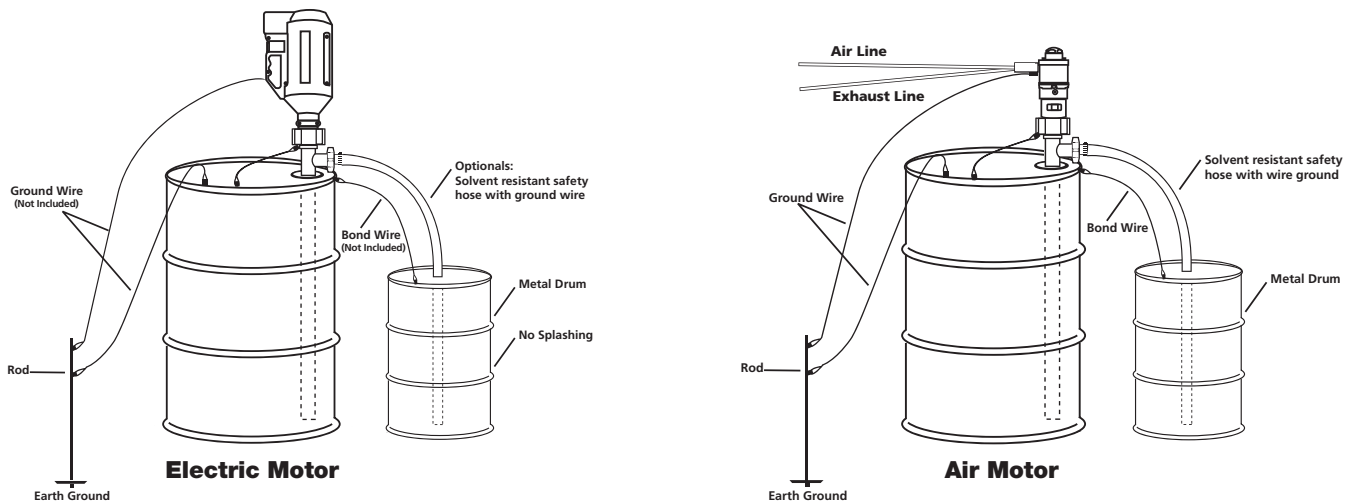

Figure 6 - Static Protection Kit
- Install the Pump and Static Protection Kit as described in Figure 6 on page 12.